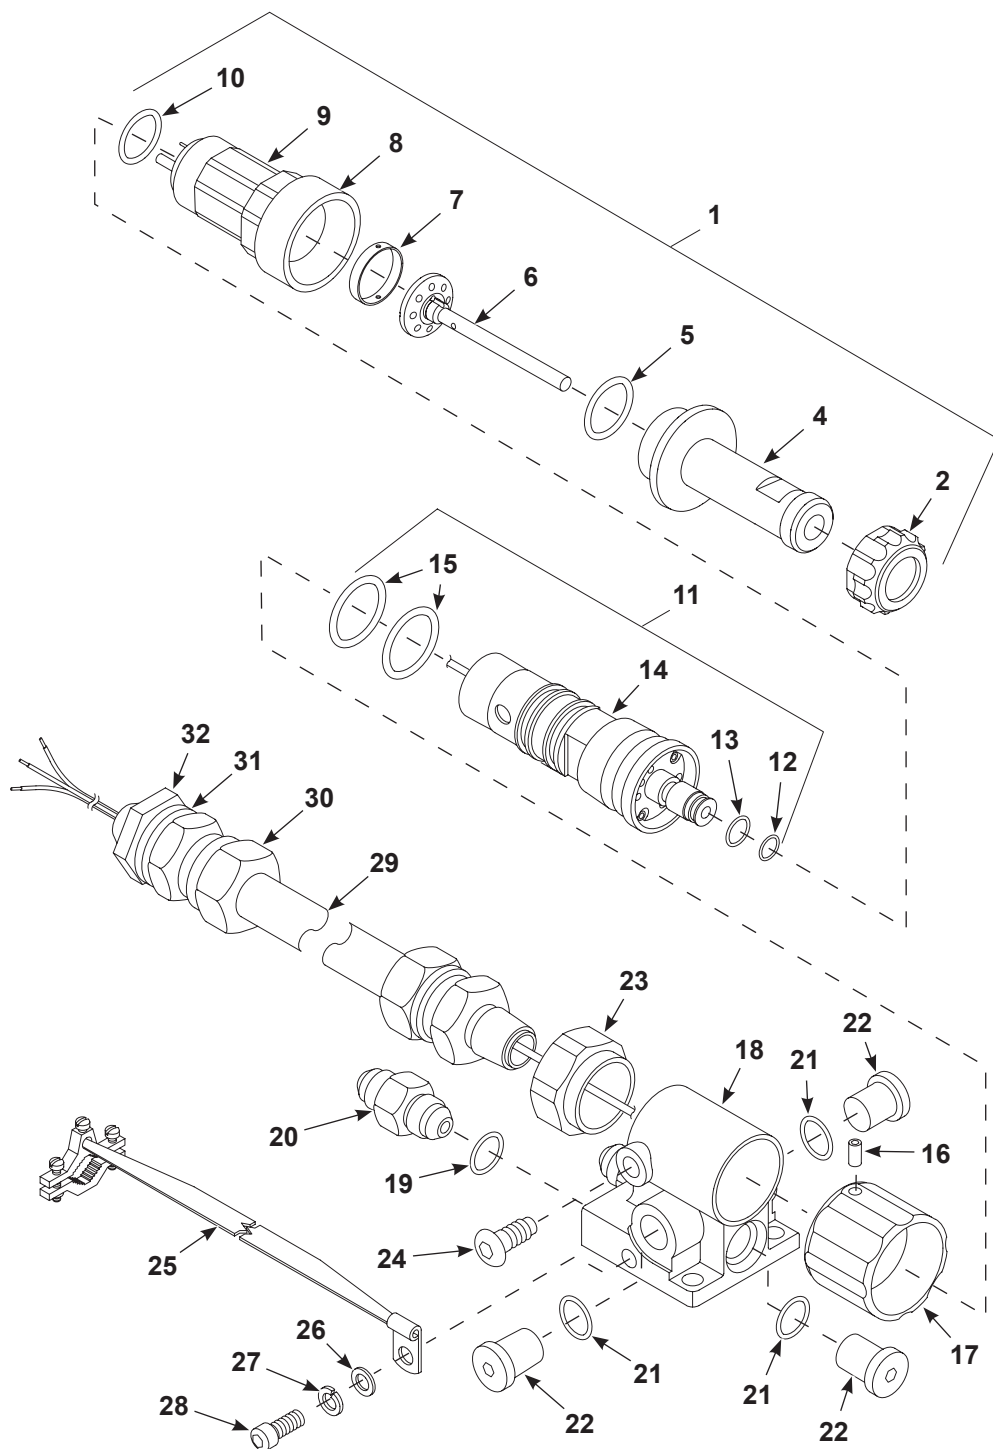

Figure 8 MEG II Extended Tip Gun
See Figure 8 and refer to the following parts list.
B. See Figure 8.
See Figure 7 and Figure 8.